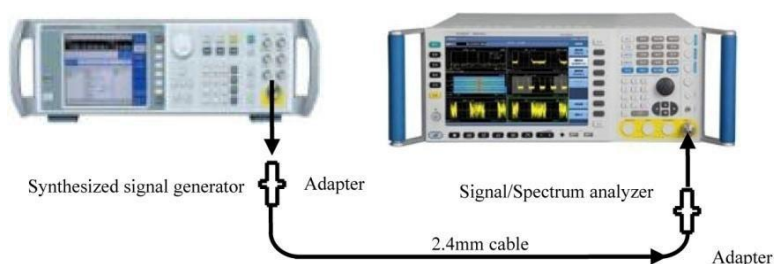

Fig. 8.3 Schematic diagram of residual frequency modulation
- 1) Connect the test equipment as shown in Figure 8.3.